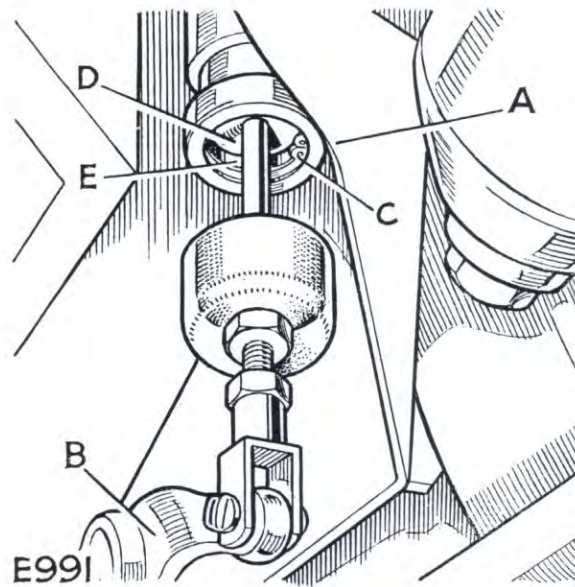

Fig. 4. Setting hydrostatic clutch, Method B
- (c) Fully depress clutch pedal and withdraw rubber boot on cylinder. Then adjust push rod until there is approximately $\frac{1}{8}$ in. (3 mm) clearance between bottom of piston and circlip. See Fig. 4.